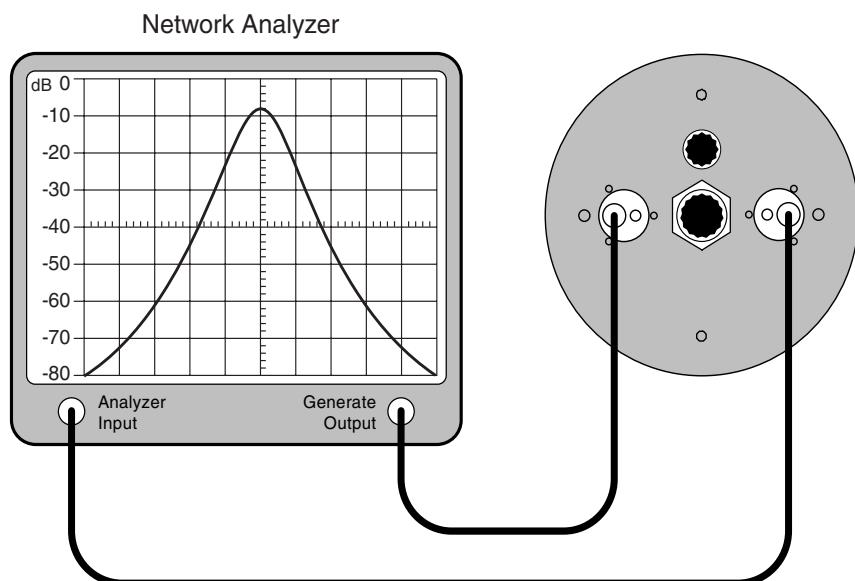

Figure 3: Tuning the pass frequency.
- 1) Connect the equipment as in **Figure 3**. Set the center frequency of the analyzer to the desired pass frequency.